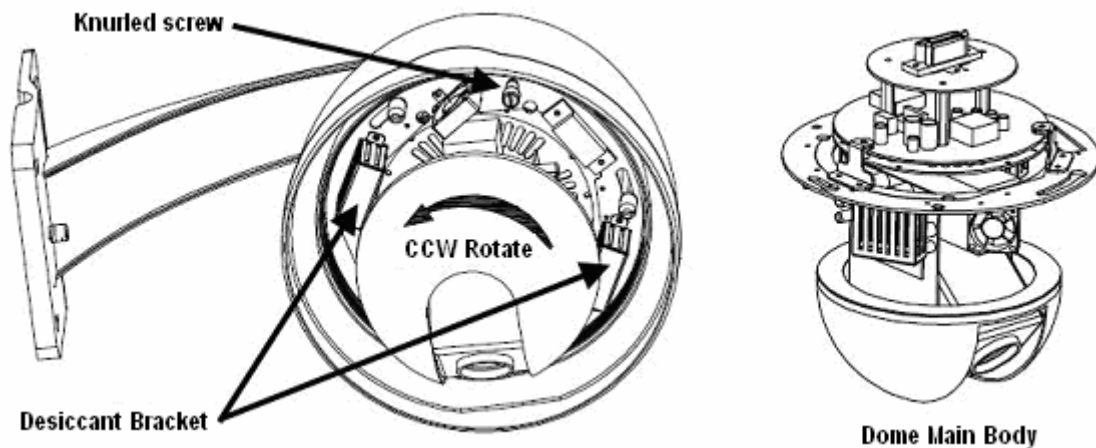

Figure 11
3. Then loosen knurled-screw as shown bellow. Hold the drier shelf, look up the dome, revolve main body CCW (counter clockwise) and fetch it out (Figure11).